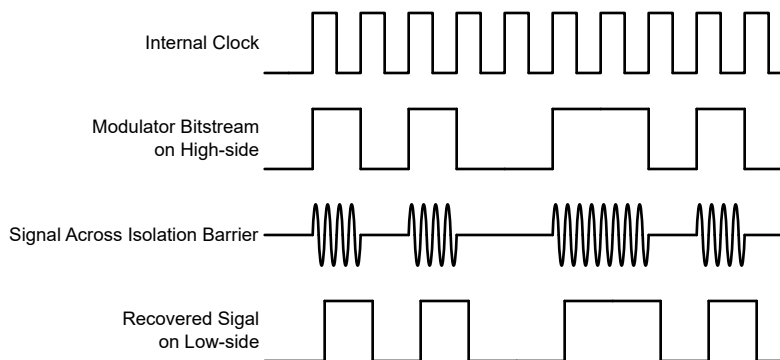

Figure 7-3. OOK-Based Modulation Scheme
The AMC0x36 uses an on-off keying (OOK) modulation scheme, as shown in Figure 7-3, to transmit the modulator output bitstream across the SiO2-based isolation barrier. The transmit driver (TX) as illustrated in the Functional Block Diagram transmits an internally generated, high-frequency carrier across the isolation barrier to represent a digital *one*. However, TX does not send a signal to represent a digital *zero*. The nominal frequency of the carrier used inside the AMC0x36 is 480MHz.